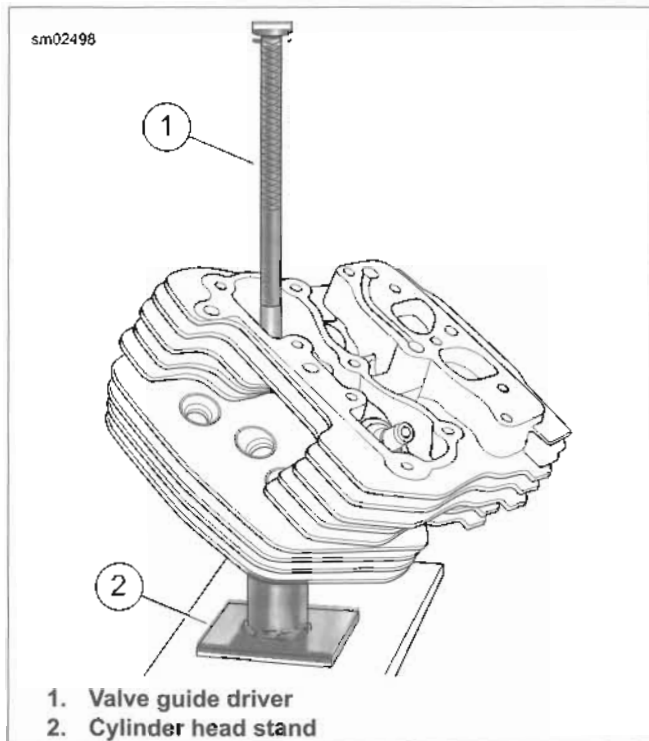

Figure 3-45. Remove Valve Guide
- Insert VALVE GUIDE DRIVER (Part No. B-45524-1) (1) into valve guide bore.
- See Figure 3-45. Center valve guide driver under ram of arbor press. Apply pressure until valve guide drops free of cylinder head. Discard valve guide.